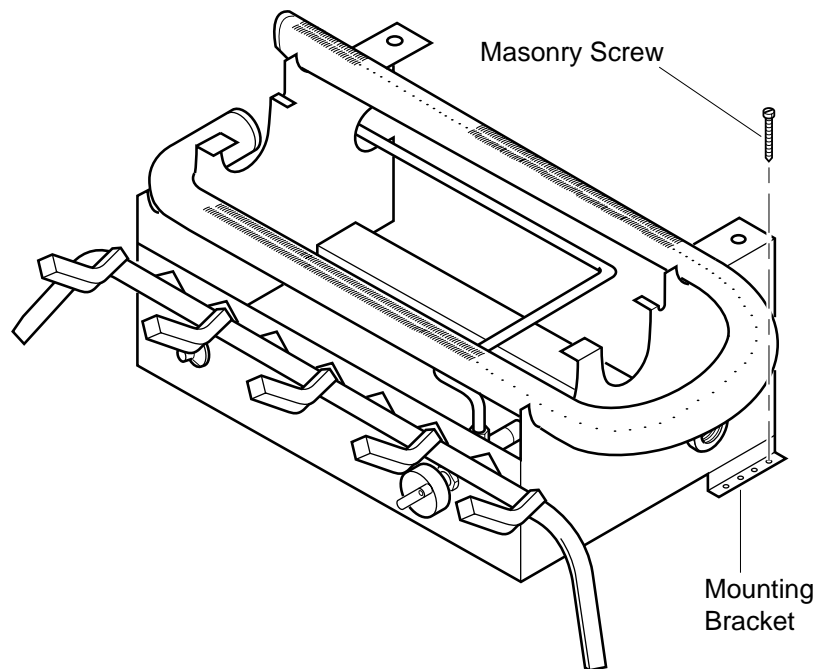

Figure 12 - Attaching Base Assembly to Fireplace Floor
4. Mark screw locations through holes in mounting brackets (see Figure 12, page 15). If installing in a brick-bottom fireplace, mark screw locations in mortar joint of bricks.
7. Attach base assembly to fireplace floor using two masonry screws (in hardware package) (see Figure 12, page 15).